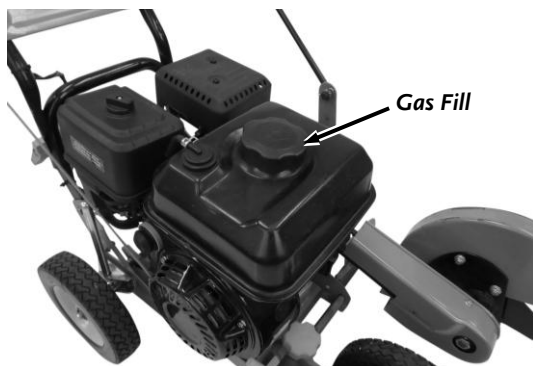

Figure 8
- Remove the Gas Fill Cap and fill the Gas Tank with fresh, unleaded gas (with a minimum of 85 Octane) to approximately 1" to 1-1/2" below the top of the fill neck to allow for fuel expansion (**Figure 8**). Be careful not to overfill and reinstall the Gas Fill Cap before starting the Engine.